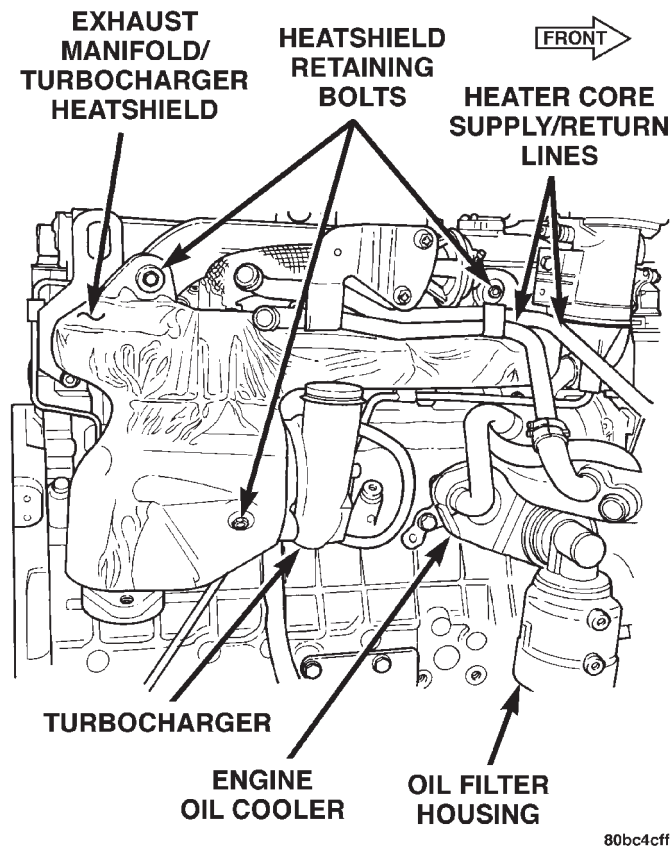

Fig. 57 Exhaust Manifold/Turbocharger Heat Shield
(14) Remove the exhaust manifold/turbocharger heat shield (Fig. 57).